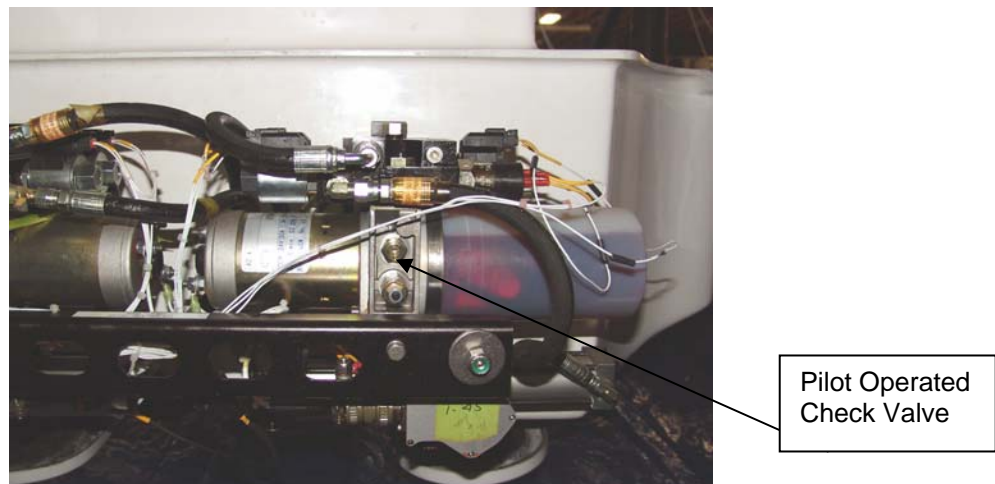

Figure 2
- 3) There are two hydraulic motor assemblies P/N 000-152803-000 on the Model 328 FAS. Each assembly has two pilot operated check valves located on opposite sides of the manifold. See figure 2.